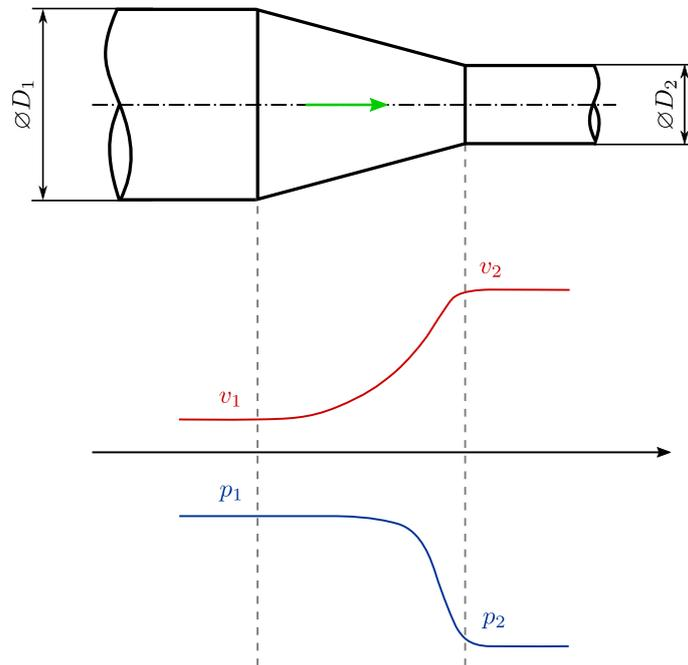

Figure 32: Flow in a confuser.
See the diagram plotted by (79) and (82) in Fig. 32.